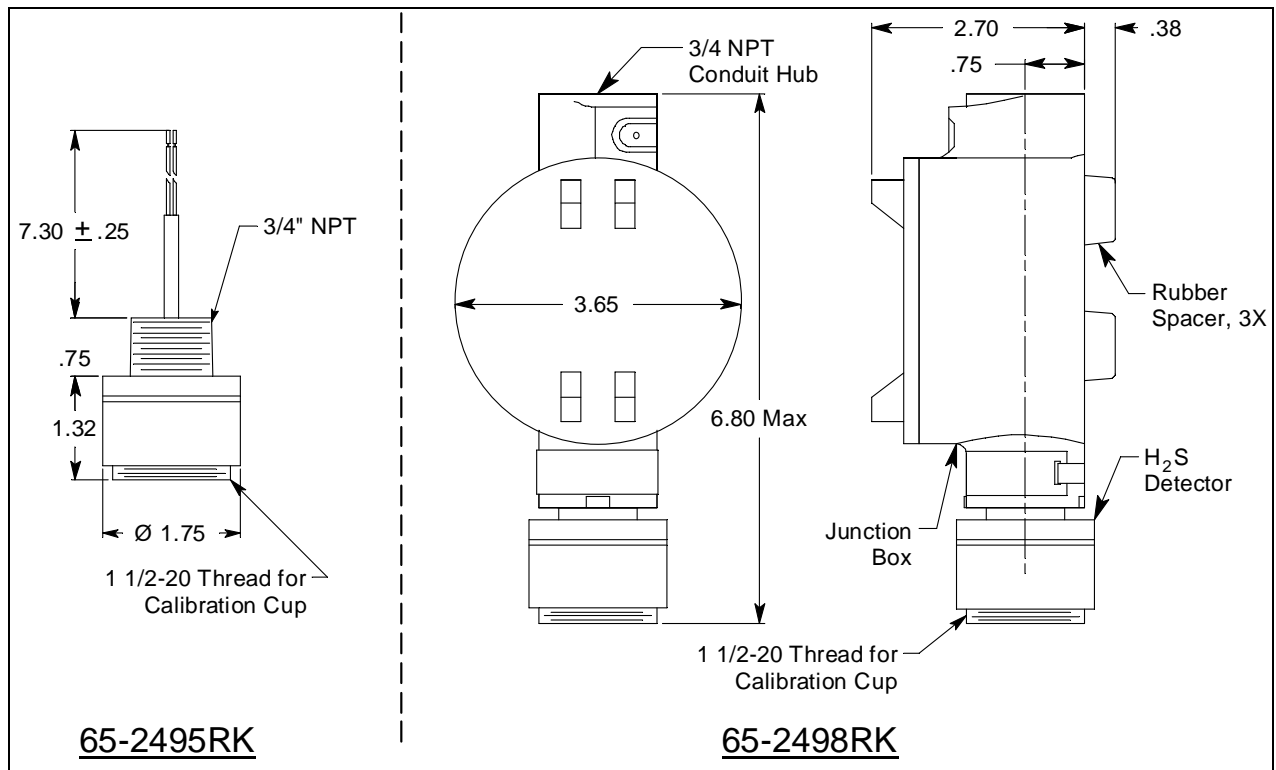

Figure 3: Outline & Mounting Dimensions, 65-2495RK & 65-2498RK
NOTE: If you are installing a 65-2495RK, it does not include a junction box and is usually factory installed in one of a controller's conduit hubs or may be field installed using the 3/4 NPT threads on the end with the wires. The 65-2498RK includes a junction box as shown in Figure 3 below.
2. At the mounting site you select, hang or mount the junction box with the detector facing down (see Figure 3).